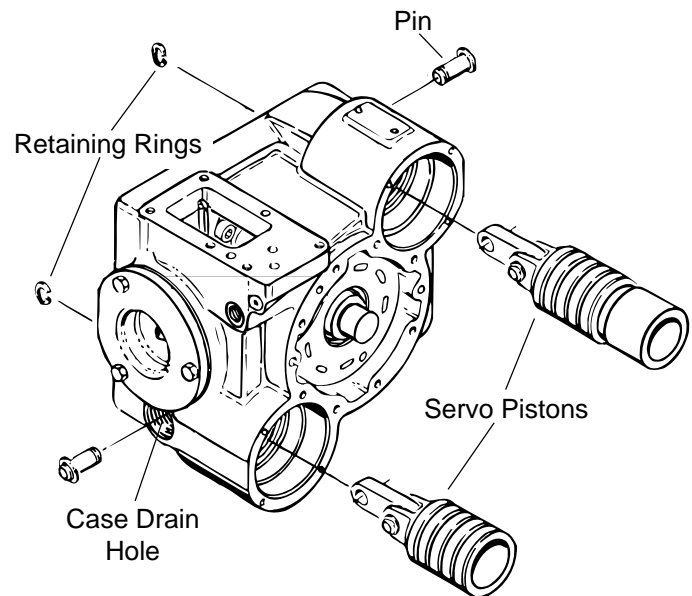

Figure 18
**46** Remove the inside retaining ring from each of the pins that connect the servo piston links to the swashplate. Slide the pins out through the case drain holes and remove the servo pistons, see figure 18.